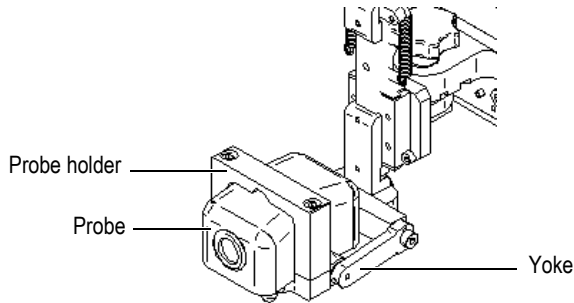

Figure 2-2 Installation of the probe holder onto the yoke
- c) Install the assembled probe and holder onto the yoke (see Figure 2-2 on page 30).